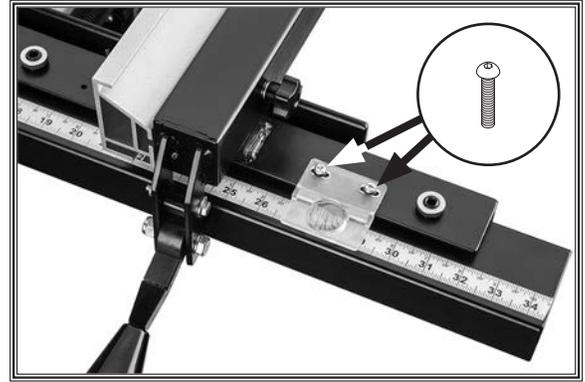

Figure 29. Ruler aligned with pointer.
- If you need to correct position of indicator line, loosen Phillips head screws on pointer window, adjust pointer window so line is over "0" mark on tape (see **Figure 29**), then tighten screws.